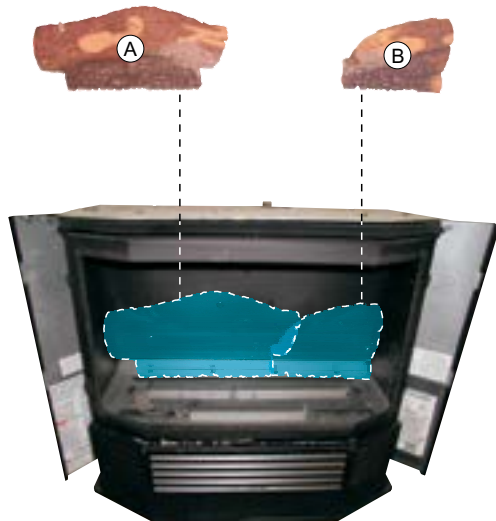

Figure 57
4. Place the Rear Right Log (B) and the Rear Left Log (A) behind the rear burner all the way against the back of the firebox. See Figure 57.